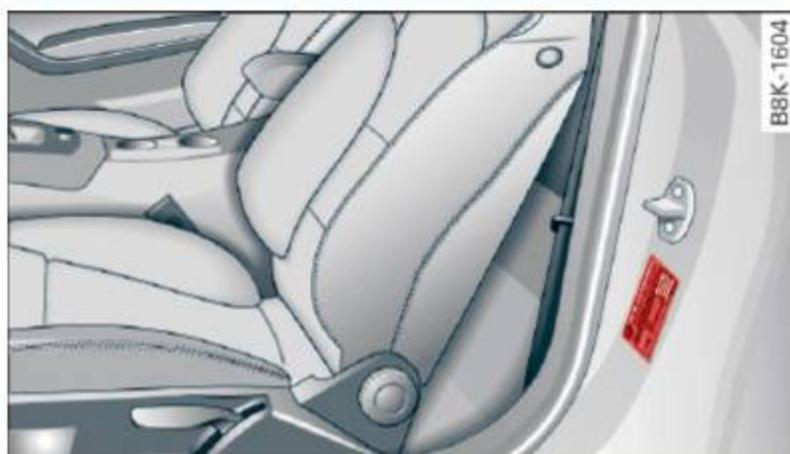
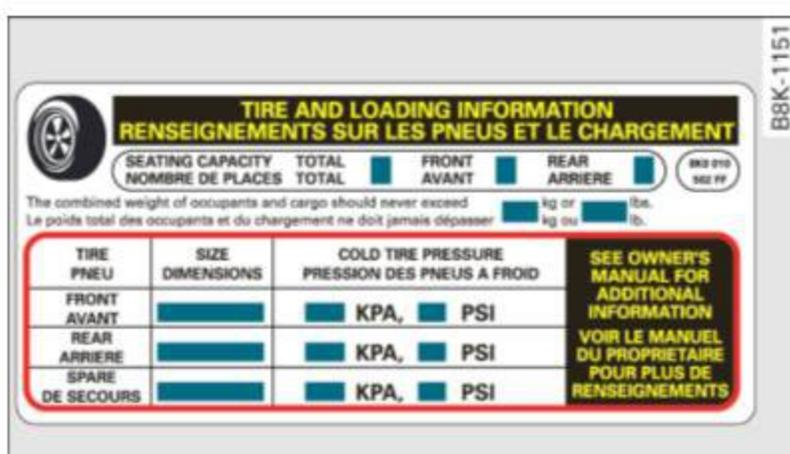

Fig. 170 Driver's side B-pillar: tire pressure label
Fig. 171 Tire pressure label
Refer to the tire inflation pressure label ⇒ *page 215, fig. 171* for the number of seating positions. Refer to the table ⇒ *page 216* for the number of people that correspond to the vehicle normal load.
The correct tire pressure for tires mounted in the factory and for the spare tire* is indicated on a label. The label is located on the B-pillar ⇒ *fig. 170*, ⇒ *fig. 171*.
- ▶ Check the label ⇒ *fig. 171* for the correct tire pressure based on vehicle load.
⇒ *page 215, fig. 170.*
are listed on the safety compliance sticker label located on the driver’s side B-pillar ⇒ *page 215, fig. 170.*
1. Locate the statement "THE COMBINED WEIGHT OF OCCUPANTS AND CARGO SHOULD NEVER EXCEED XXX KG OR XXX LBS" on your vehicle's placard (tire inflation pressure label) ⇒ *page 215, fig. 170*.
3. Subtract the combined weight of the driver and passengers from "XXX" kilograms or "XXX" pounds shown on the sticker ⇒ *page 215, fig. 170*.